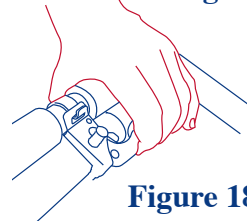

Figure 18.
- The front wheel has a bicycle style caliper brake system that is designed to assist you in slowing the stroller on a hill or in the event of an emergency. Squeeze the brake handle to slow the stroller. See figure 18. The hand brake is not to be used as a parking brake. Please see Brake section.